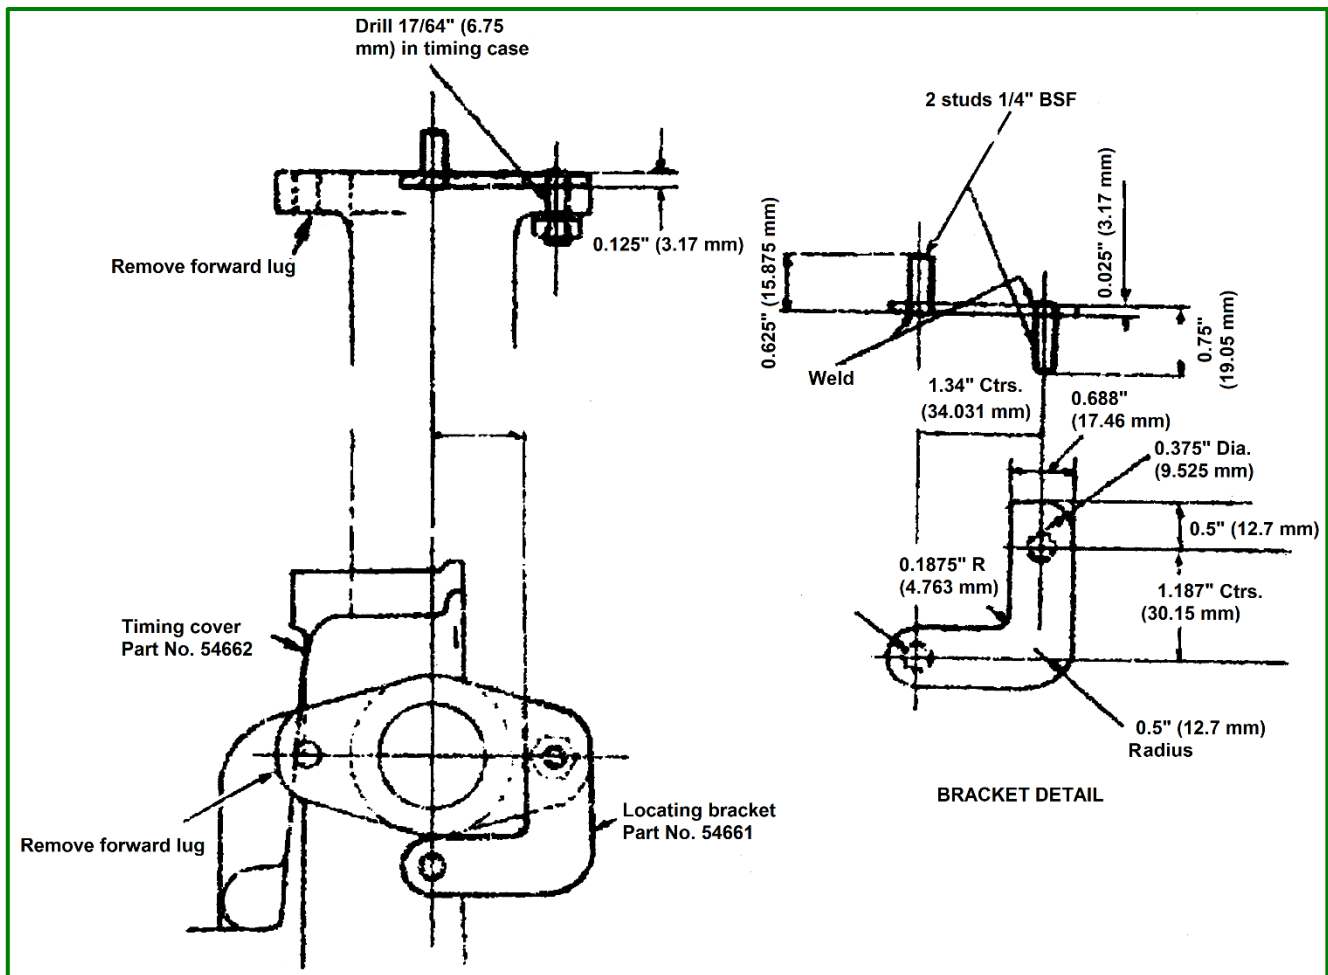
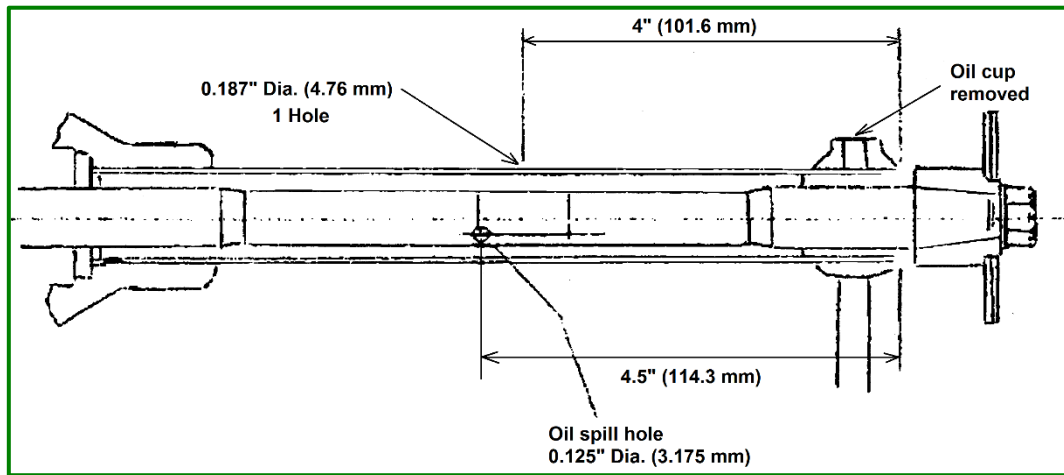

Figure 2. Installing Lucas DKY H4A distributor on later type timing cover.
Figure 1. Dimensions for drilling fan support tube.
Right: Figure 1. Starter ring gear modification.
1. Remove the oil filler tube and modify to the dimensions given at (A), so that it will clear the cooler. See *Figure 1*, Page 45.
2. Shape the dipstick to the dimensions at (B), so that it clears the oil cooler when being withdrawn or being replaced. See *Figure 1*, Page 45.
3. Remove the radiator grille and remove the deflector plate as shown at (C) *Figure 1*. Cut away the portions of the grille portions as shown, so that there is clearance between the oil cooler and the Grille. If the grille is of the early type with the chromium-plated louvres, no modification to the louvres is required, but it will be necessary to remove the brace frame, and to fabricate and fit a modified brace frame, as shown in *Figure 2*, on Page 45.
4. To fit the cooler, remove the captive nuts at the rear of the mud-wing and drill the lower cooler brackets to coincide with the existing holes in the mud-wing and secure with two $\frac{1}{4} \times 1$ -in. BSF bolts and nuts with the distance pieces positioned between the lower cooler brackets and the mud-wing as shown at (D) in Figure 1.
Above: Figure 1. Mounting of competition type oil cooler (with Tecalemit oil filter).
Drill the grille frame corner pieces and top cooler bracket holes and secure with the use of two $\frac{1}{4} \times \frac{5}{8}$ -in. BSF bolts as shown at (E) in Figure 1.
5. Fit the cooler pipes in position as shown in Figure 1, using the existing banjo bolts and fibre washers at the rear timing cover connections.
Right: Figure 2. Fitting of brace frame to early type grille.
Right: Figure 1. Installation of securing plate on early type timing cover.
The mounting flange on the timing cover is modified to suit the new type distributor securing plate and the new type timing cover, Part Number 54662, has also been changed. The DM2 distributor may be fitted to the old type timing cover by increasing the width of the elongated hole in the securing plate as shown in *Figure 1*.
The old type distributor (DKY H4A) can be fitted to the new type timing cover by removing the forward lug of the timing cover mounting flange and fitting a distributor locating bracket, Part Number 54661, to the rear lug of the timing cover mounting flange as shown in *Figure 2*.
Figure 2 is located on Page 48.